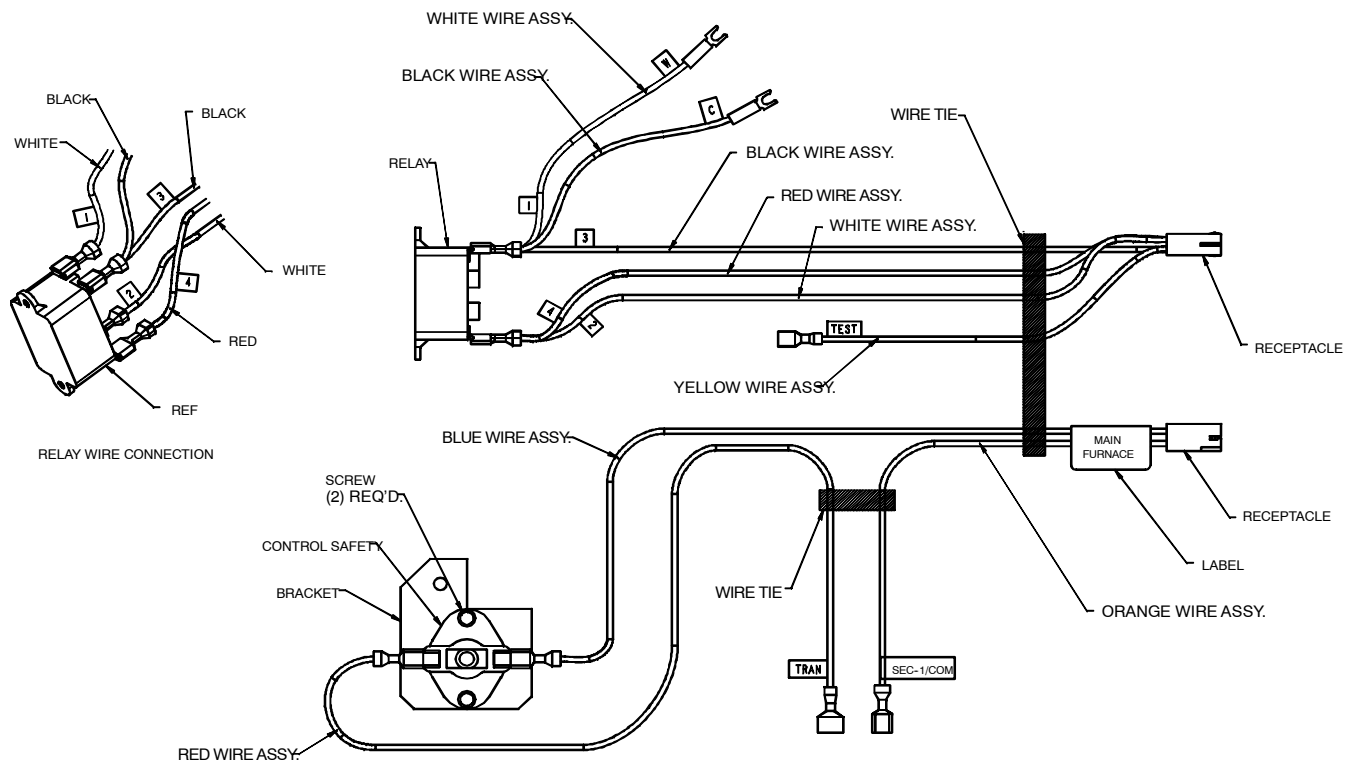
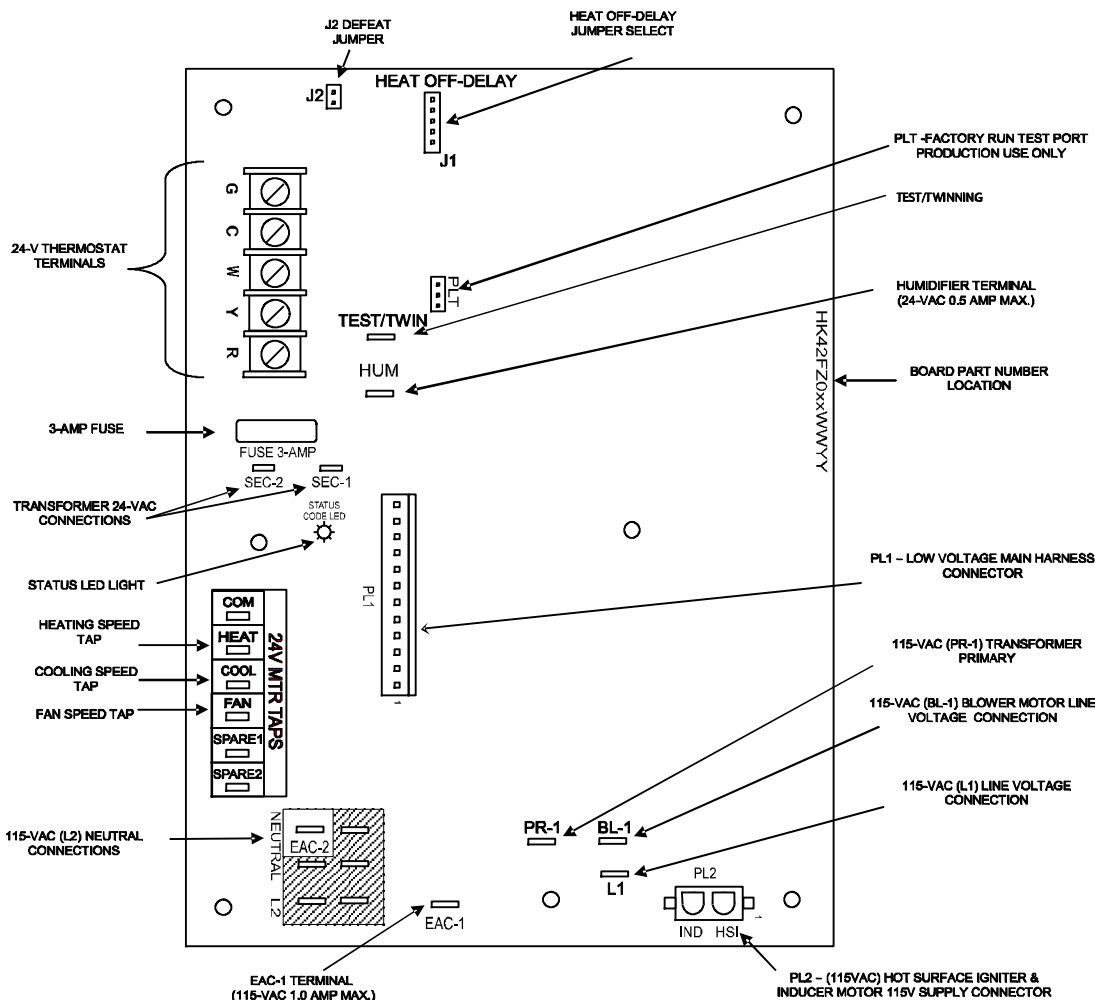

Fig. 17 - Main Harness
Fig. 19 - Example of Single-Stage Furnace Control
labeled on the harness. (See Fig. 17.) Refer to Fig. 19 location of control board components. Connect the Main Twinning Kit harness to furnace control board as follows:
- c. For operation of two-stage furnaces with a single-stage or two-stage thermostat, connect the White wire with the fork terminal on the TKR to the "W/W1" terminal on the thermostat strip of the Main furnace control board. Refer to Fig. 19 and Thermostat Connections section for details.